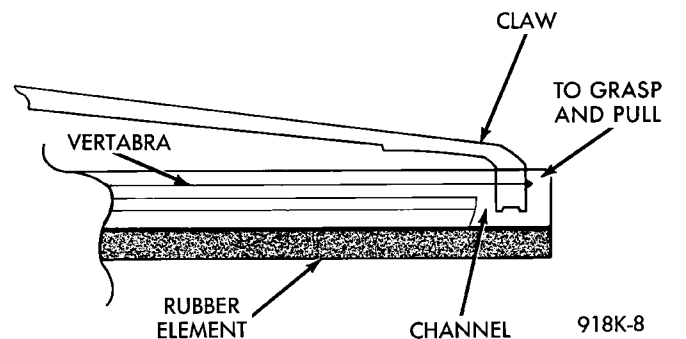

Fig. 8 Wiper Blade and Element
- Remove wiping element from blade assembly. Pull stopper, of the rubber element, out of the end claw together with vertibra (metal rails) (Fig. 8).